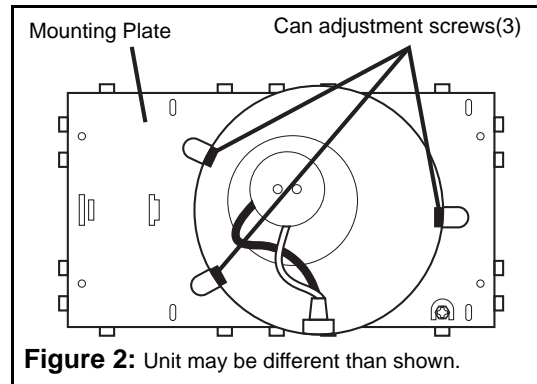

Figure 2: Unit may be different than shown.
8. Adjust the height of the can, if needed, by loosening the screws inside the can and align the lip to the sheet rock or ceiling panel (see fig. 2).